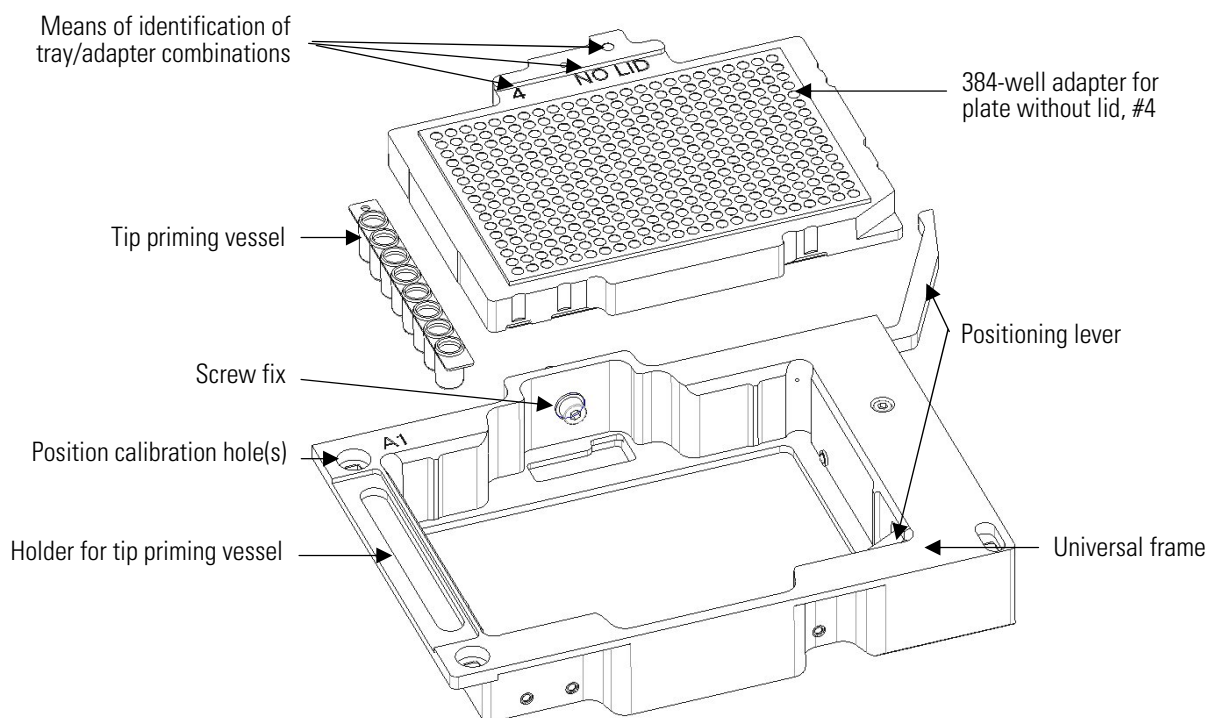

Figure 2–19. Assembly picture of the universal tray
The tray composition is shown in Figure 2–19 and described below.
- Screw fix** The tray is fastened to the tray holder, which is part of the track mechanism, by a screw fix (Figure 2–19). Refer to “How to install the tray” on page 48.
- Frame** The universal frame (Figure 2–19) is the basic part of the universal tray, into which adapters are fitted.
- Adapter** The adapter (Figure 2–19) is the detachable part that is fitted into the universal frame. There are adapters for microplates with or without lids. Some adapters support incubation, others do not (Table 2–1 and Table 2–2).
- Means of identification of tray/adapter combinations** For automatic identification of tray/adapter combinations, there are codes that refer to the coding system employed (Figure 2–19). The adapters are also marked with a visual identification number and the text WITH LID or NO LID to help differentiate them from one another.